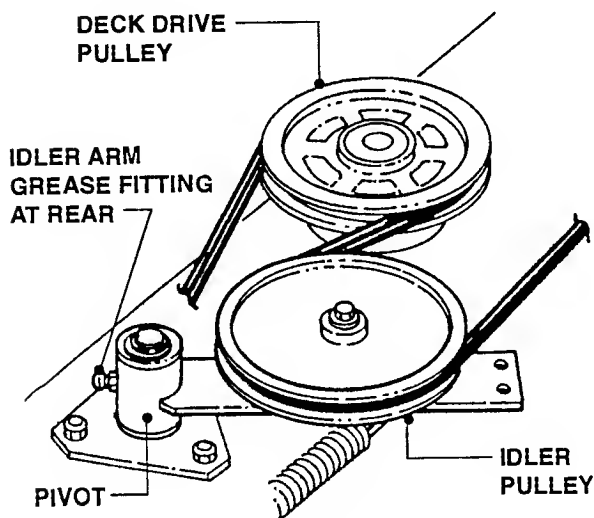

FIGURE 8.17
5. If it does not, lubricate Pivot area through grease fitting, located at rear of Idler Arm. See Figure 8.17.